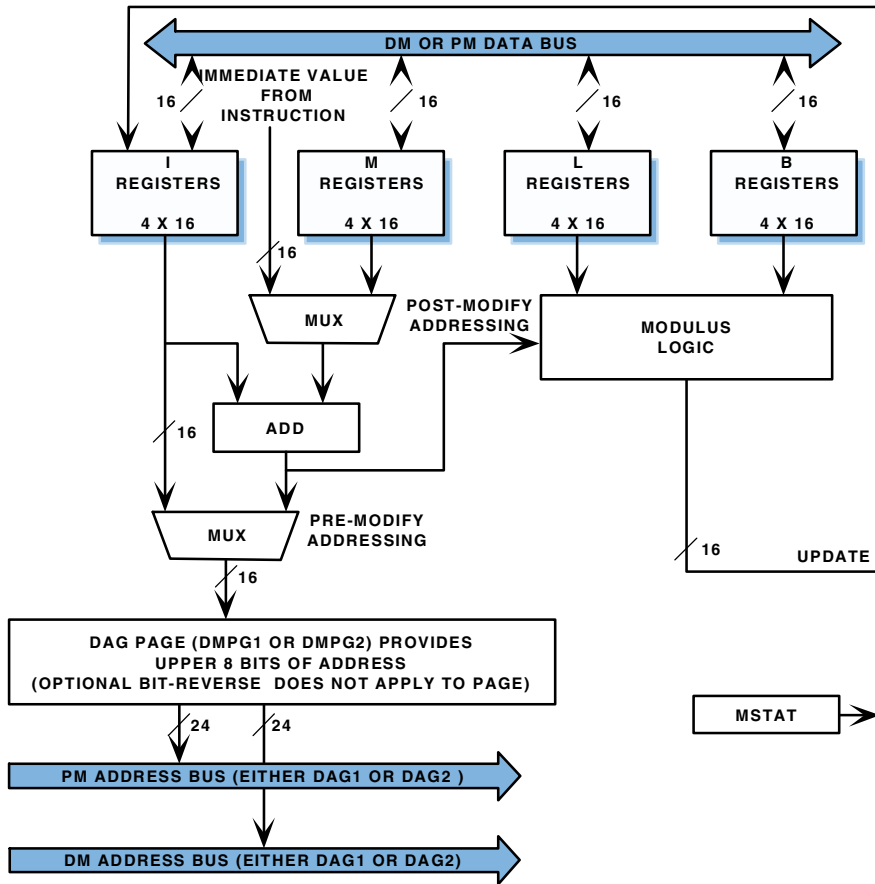

Figure 5-1. Data Address Generator (DAG) Block Diagram
The DSP's Data Address Generators (DAGs) generate addresses for data moves to and from Data Memory (DM) and Program Memory (PM). By generating addresses, the DAGs let programs refer to addresses indirectly, using a DAG register instead of an absolute address. The DAG architecture, which appears in Figure 5-1 on page 5-3, supports several functions that minimize overhead in data access routines. These functions include:
As shown in Figure 5-1 on page 5-3, each DAG has five types of registers. These registers hold the values that the DAG uses for generating addresses. The types of registers are:
The DSP's DAGs perform several types of operations to generate data addresses. As shown in Figure 5-1 on page 5-3, the DAG registers and the MSTAT register control DAG operations. The following sections provide details on DAG operations:
An important item to note from Figure 5-1 on page 5-3 is that each DAG automatically uses its DAG memory page (DMPG_x) register to include the page number as part of the output address. By including the page, DAGs can generate addresses for the DSP's entire memory map. For details on these address adjustments, see “DAG Page Registers \(DMPG_x\)” on page 5-7.